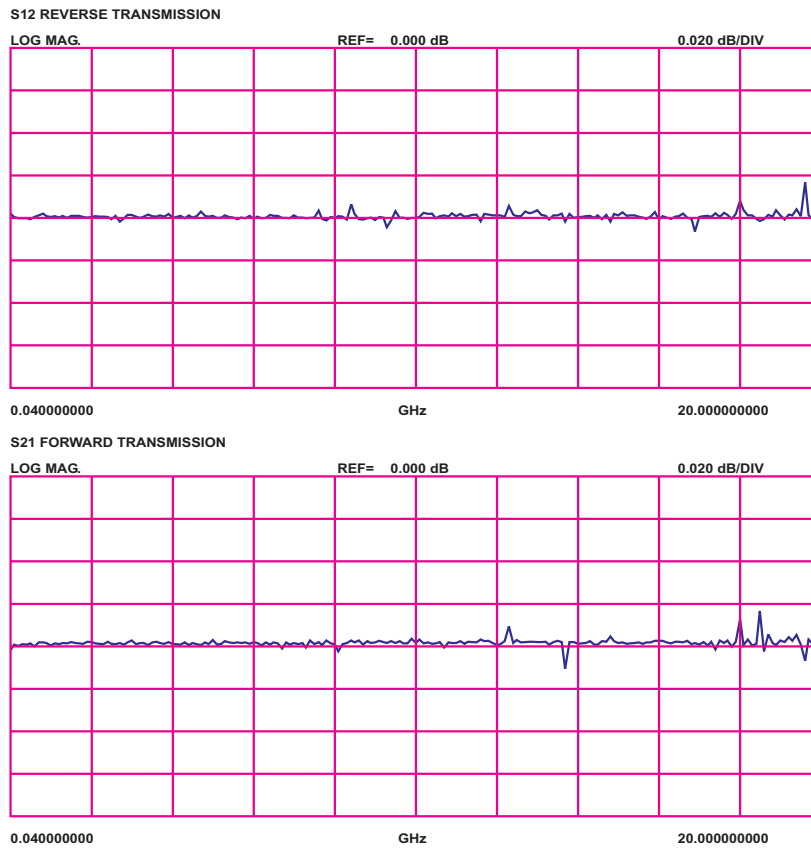

Figure 11-2. High Level Noise Test Waveform
Options Menu	Non-Ratioed Parameters, see Figure 11-2
- Step 10.** Verify that the peak-to-peak High Level Noise falls within the area between the two limit lines (Figure 11-2, following page).